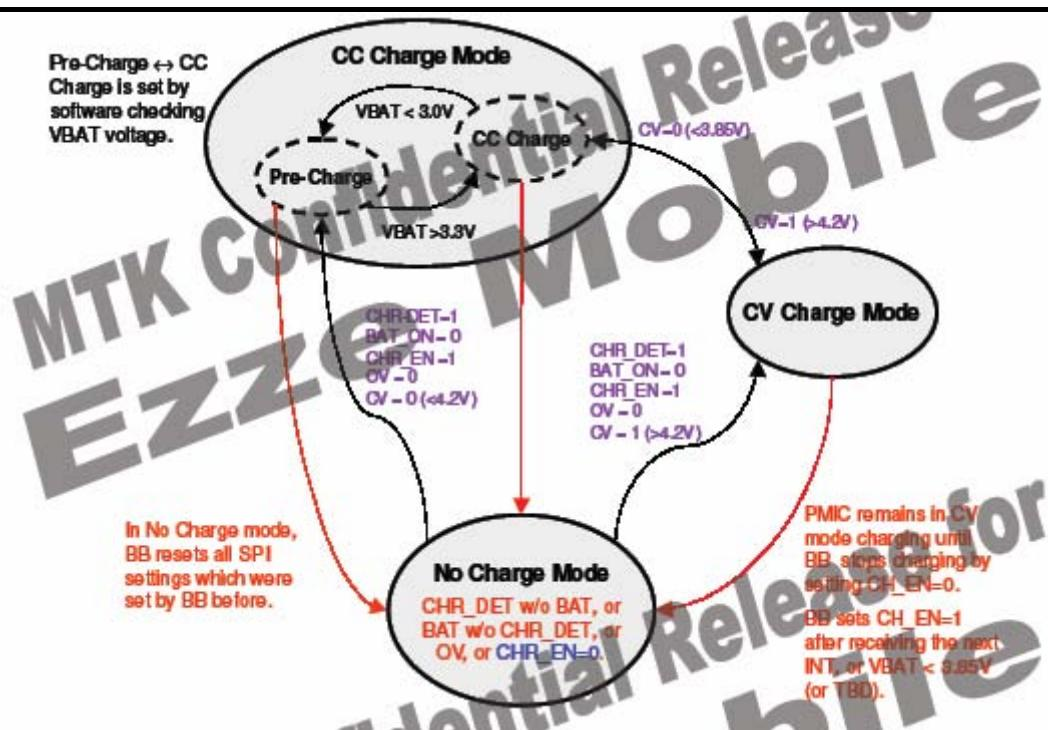

Figure 45. Charger Status Diagram
Battery charging states include No Charge mode, Constant(CC) charge mode (pre-charge, constant current), and Constant Voltage(CV) charge mode (Figure 45). No matter what state the phone is in, the PMIC charger handles the charging state transition and reflects the status in Register 0(charger status) for the BB to read.